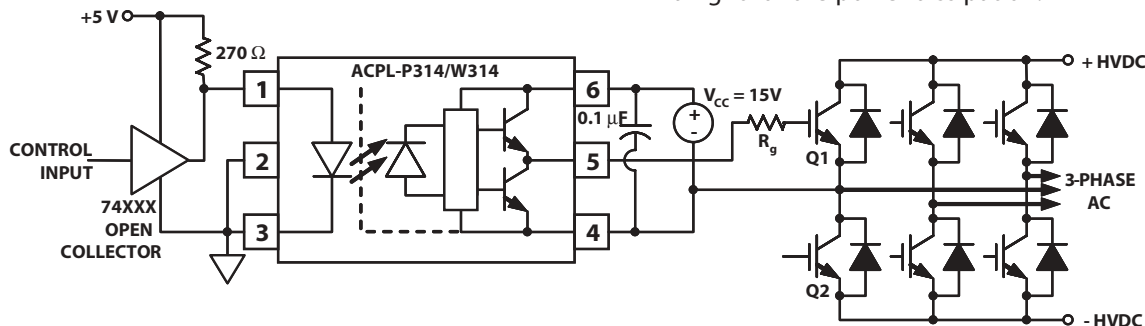
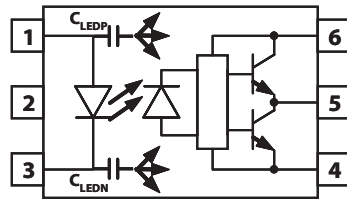
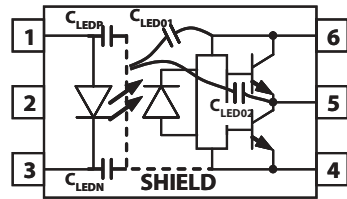
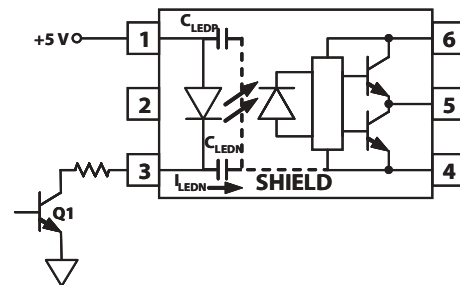

Figure 19. Recommended LED Drive and Application Circuit for ACPL-P314/W314
Figure 21. Optocoupler Input to Output Capacitance Model for Unshielded Optocouplers.
Figure 22. Optocoupler Input to Output Capacitance Model for Shielded Optocouplers.
Figure 24. Not Recommended Open Collector Drive Circuit.
To keep the IGBT firmly off, the ACPL-P314/W314 has a very low maximum V_{OL} specification of 1.0 V. Minimizing R_g and the lead inductance from the ACPL-P314/W314 to the IGBT gate and emitter (possibly by mounting the ACPL-P314/W314 on a small PC board directly above the IGBT) can eliminate the need for negative IGBT gate drive in many applications as shown in Figure 19. Care should be taken with such a PC board design to avoid routing the IGBT collector or emitter traces close to the ACPL-P314/W314 input as this can result in unwanted coupling of transient signals into the input of ACPL-P314/W314 and degrade performance. (If the IGBT drain must be routed near the ACPL-P314/W314 input, then the LED should be reverse biased when in the off state, to prevent the transient signals coupled from the IGBT drain from turning on the ACPL-P314/W314.
Step 1: Calculate R_g minimum from the I_{OL} peak specification. The IGBT and R_g in Figure 19 can be analyzed as a simple RC circuit with a voltage supplied by the ACPL-P314/W314.
where $K_{ICC} \cdot Q_g \cdot f$ is the increase in I_{CC} due to switching and K_{ICC} is a constant of 0.001 mA/(nC*kHz). For the circuit in Figure 19 with I_F (worst case) = 10 mA, $R_g = 32\Omega$, Max Duty Cycle = 80%, $Q_g = 100$ nC, $f = 20$ kHz and $T_{AMAX} = 85^\circ\text{C}$:
Without a detector shield, the dominant cause of optocoupler CMR failure is capacitive coupling from the input side of the optocoupler, through the package, to the detector IC as shown in Figure 21. The ACPL-P314/W314 improves CMR performance by using a detector IC with an optically transparent Faraday shield, which diverts the capacitively coupled current away from the sensitive IC circuitry. However, this shield does not eliminate the capacitive coupling between the LED and optocoupler pins 5-8 as shown in Figure 22. This capacitive coupling causes perturbations in the LED current during common mode transients and becomes the major source of CMR failures for a shielded optocoupler. The main design objective of a high CMR LED drive circuit becomes keeping the LED in the proper state (on or off) during common mode transients. For example, the recommended application circuit (Figure 19), can achieve 10 kV/ μ s CMR while minimizing component complexity.
The open collector drive circuit, shown in Figure 24, can not keep the LED off during a $+dV_{CM}/dt$ transient, since all the current flowing through C_{LEDN} must be supplied by the LED, and it is not recommended for applications requiring ultra high CMR₁ performance. The alternative drive circuit which like the recommended application circuit (Figure 19), does achieve ultra high CMR performance by shunting the LED in the off state.